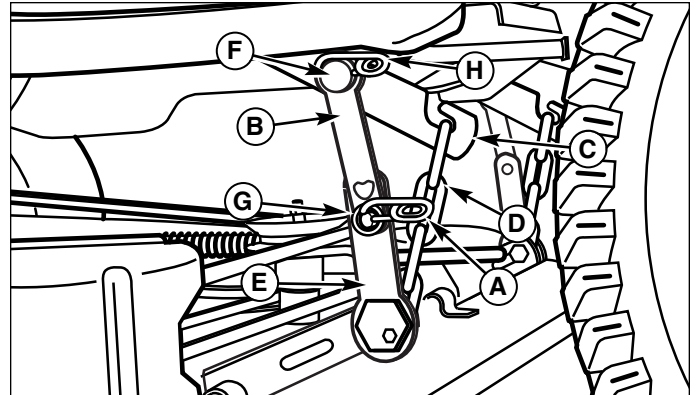
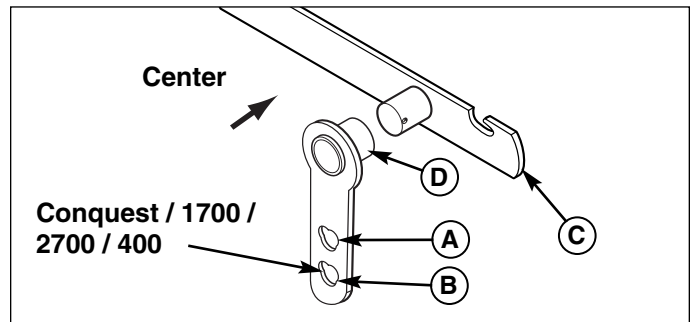

Figure 9. Lift Arms
Figure 10. Upper Hanger
4. Disconnect the safety clips (A & H, Figure 9) and washer (G) from the lower hanger (E). Remove upper hanger (B) from lift post (F). Connect upper hanger (B) to lower hanger (E) using safety clip (A) to prevent misplacing or losing parts. Repeat on other side.
6. Remove lift chain (D) from lift hook (C). Repeat on other side.
4. See Figure 9. Connect the lift chain (D) to the lift hook (C). Repeat on other side.
6. Disconnect the safety clip (A & H, Figure 9) from the upper hanger (B) and lower hanger (E) if still connected from storage. Slide upper hanger (B) over post on lift hook (F). The long hub (D, Figure 10) on the upper hanger must face toward center. Connect hole on upper hanger (B, Figure 9) to post on lower hanger (D). Secure with washer (G) and safety clip (A & H). Repeat on other side.
*Note: Use lower hole for Conquest / 1700 / 2700 / 400 as shown in figure 10.*